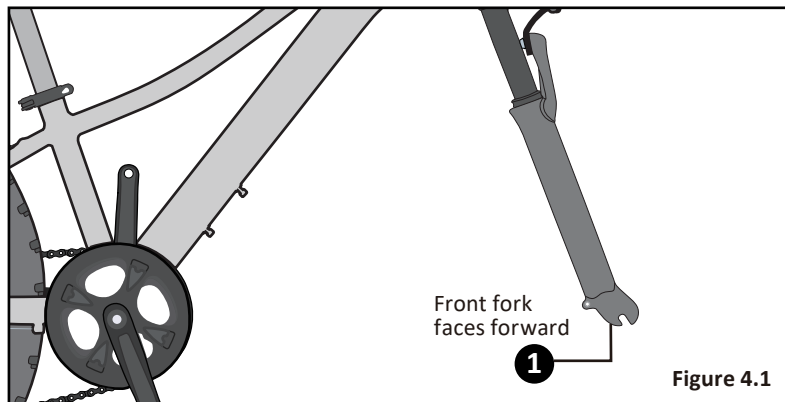

Figure 4.1
- 1** Turn the front fork to face forward (ie: the fork dropout is in the furthest forward position). **Figure 4.1**